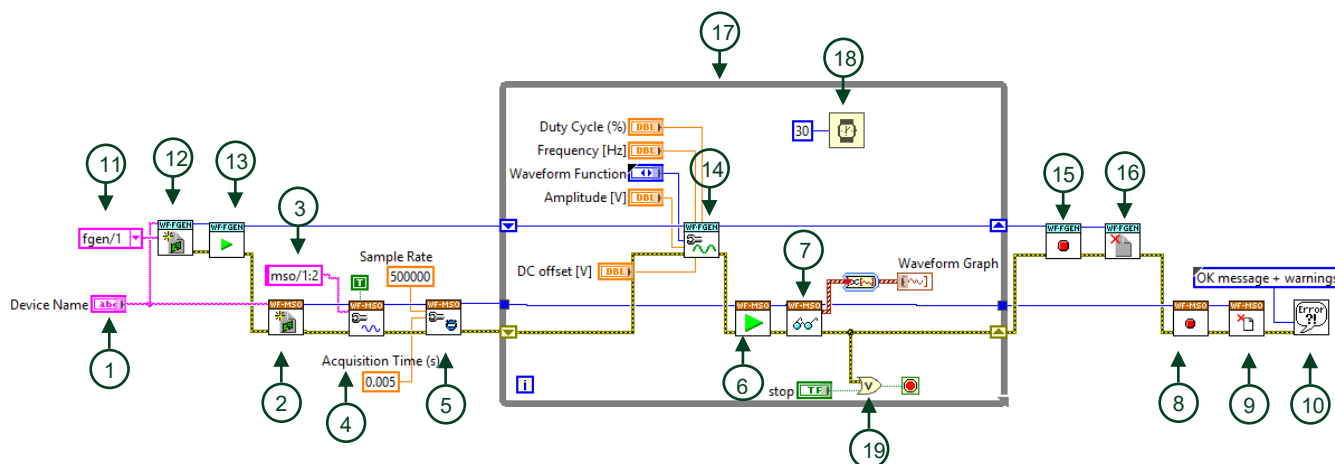

Figure 6. VI Block Diagram for AD3
- 2.1. Modify the block diagram as shown in **Figure 6**.
Figure 6 shows the LabVIEW block diagram applicable to Analog Discovery 3, Analog Discovery Studio, and Analog Discovery Studio MAX devices.